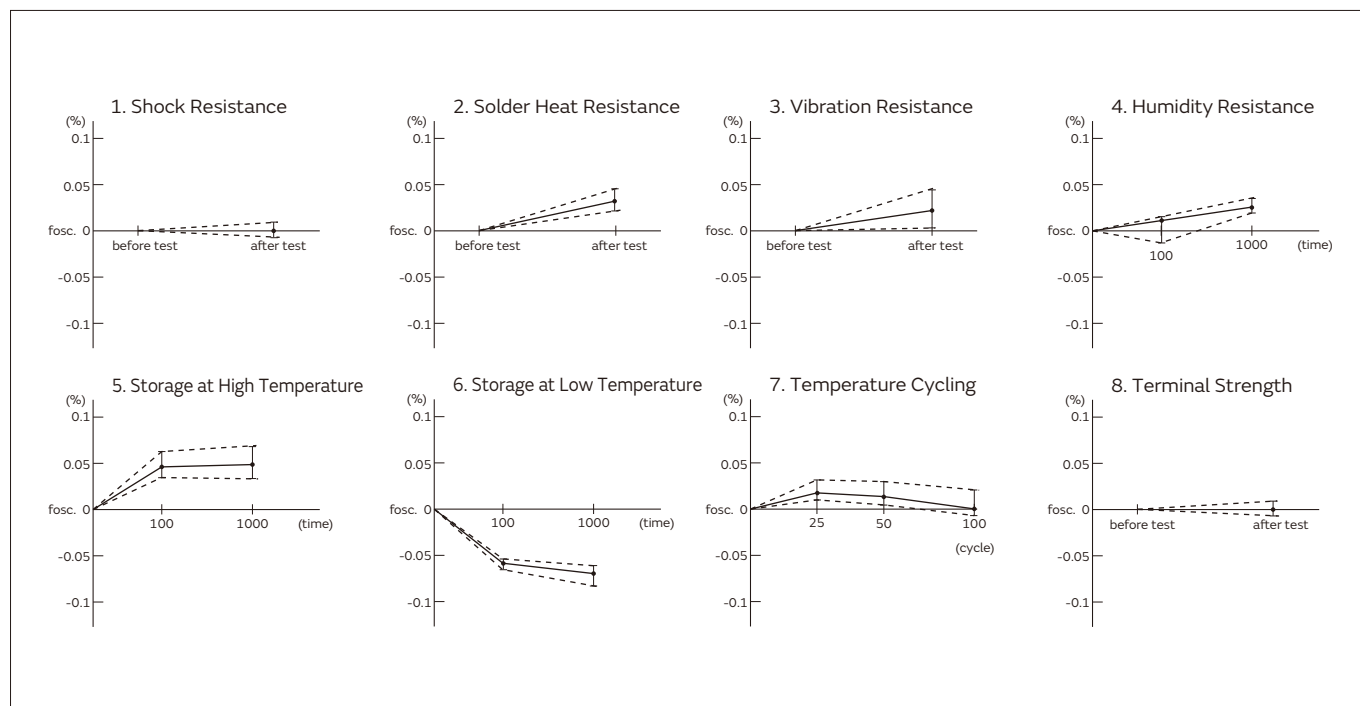
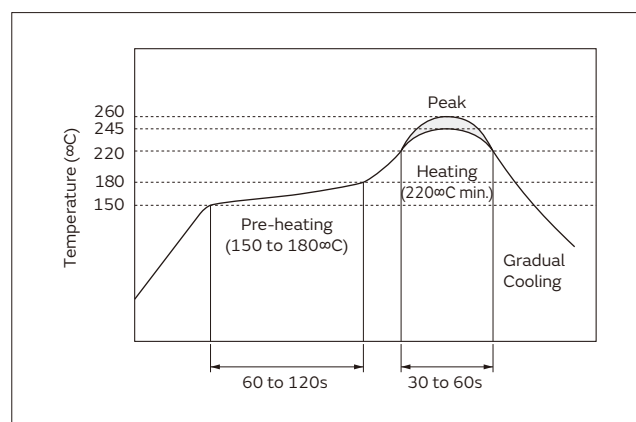

Fig. 3-2 General Changes of Oscillation Frequency in Each Reliability Test (CSTLS4M00G53-B0)
Fig. 3-3 Reflow Soldering Profile for MHz Band Chip CERALOCK®
Fig. 3-2 shows the changes of oscillation frequency in each test, the table on the next page shows the criteria after the tests, and Fig. 3-3 shows the reflow soldering profile.
2. Soldering Heat Resistance	Lead terminals are immersed up to 2.0 mm from the resonator's body in solder bath of [c], and then the resonator shall be measured after being placed in natural condition for 1 hour.* ¹ Reflow profile show in Fig. 3-3 of heat stress is applied to the resonator, then the resonator shall be measured after being placed in natural condition for 1 hour.* ²